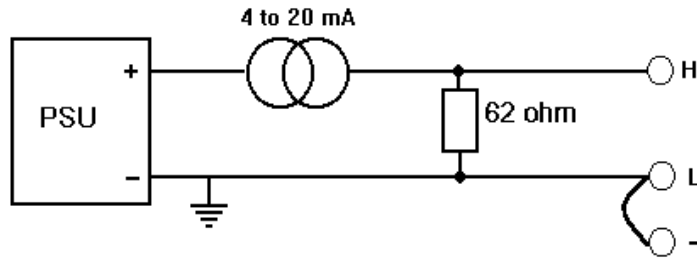

FIGURE 6.14 6-POLE CURRENT SOURCE CONNECTION.
1. If the power source is earthed, the current source should be connected as shown in Figure 6.14.
2. If the power source is isolated, the transducer can be placed in either the high (H) or low (L) lead.
3. A 7021 / 7221 / 7321 module can be used to measure current if an external  $62\Omega$  resistor is fitted as shown in Figure 6.14. The tolerance of this resistor determines the accuracy of the current measurement. The specification assumes a 0.1% or better resistor.
4. The guard terminal (—) should be linked to the low terminal (L).